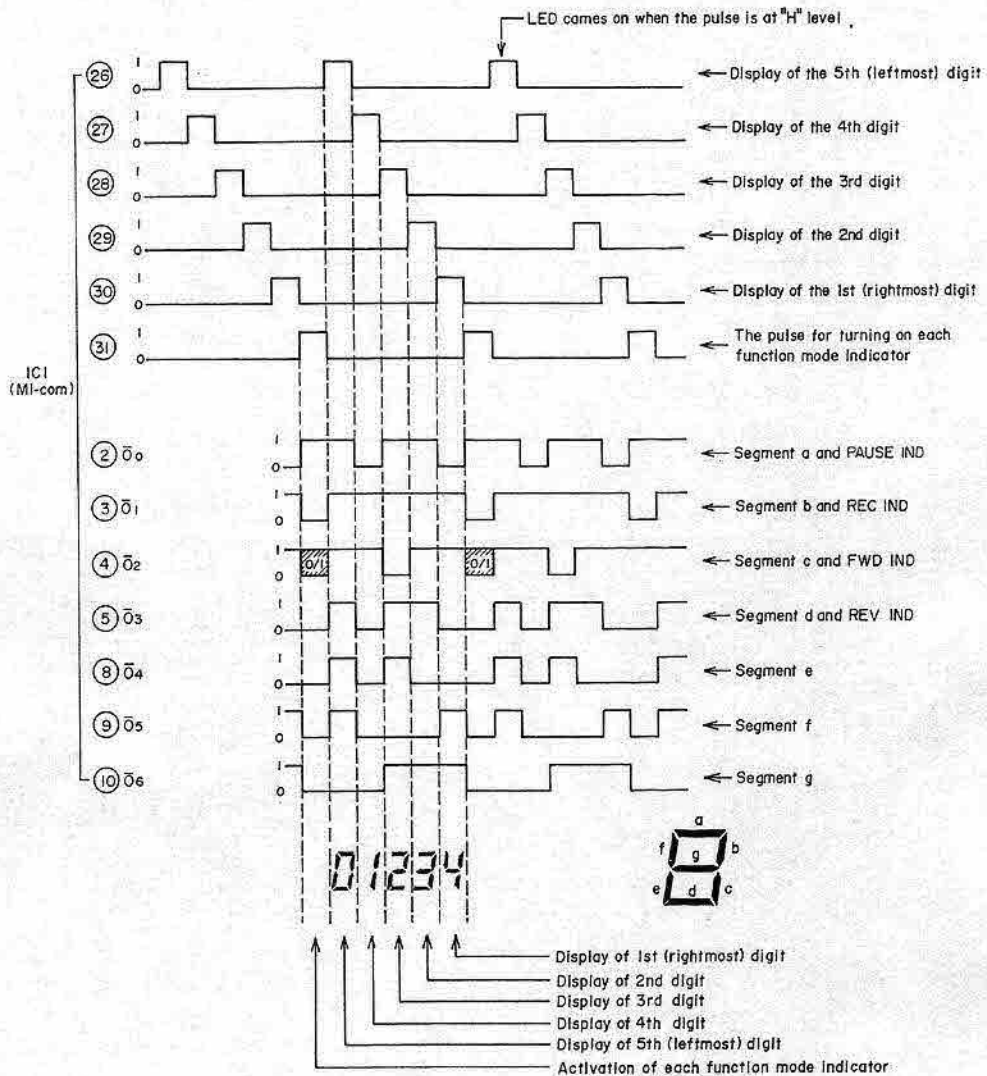

Fig. 23
Here we will explain about the situation in Fig. 23 (FWD PLAY/PAUSE) as one example. Hereinafter FWD PLAY is just written as PLAY. Under PLAY/PAUSE, PAUSE of the function mode indicator is always lit and PLAY is flashing. Firstly, refer to the vertical row of the function mode indicators of O0 - O3 in Fig. 23. You will note that PAUSE IND has "H" level, PLAY IND has "L/H" flashing and others have "L" level.
Fig. 23 shows the timing chart. By means of the waveforms of IC (26) - (30) coming from the microcomputer, the lighting position of LED of each digit is moved in sequence. Take the example of the first digit.
tion of  $\bar{0}0 - \bar{0}6$  of the first digit indication in Fig. 23, b, c, f, and g segments are lit and a, d and e segments are dark. In this condition, the indicator indicates 4. Similarly if we look at the 2nd - 5th digits, 01234 is indicated in the condition of Fig. 23.